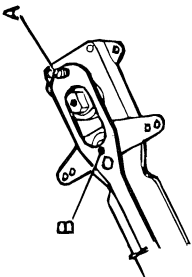

Fig. 3
- Reposition screw and roller from A to B (fig. 3).